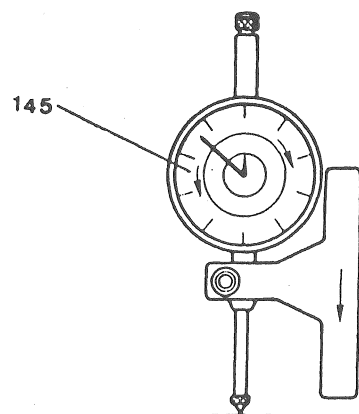

Fig 15
12.9 INDICATOR (145) (fig. 15)